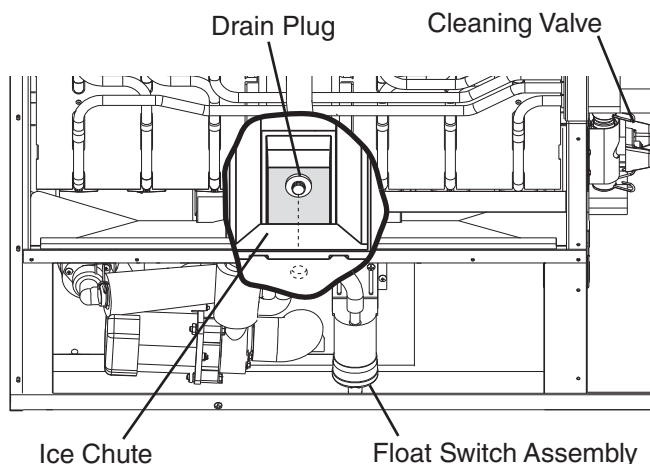

Fig. 16
- 6) Remove the insulation panel. Remove the drain plug located on the lower front part of the ice chute. See Fig. 16. Allow the water tank to drain.
- 3) Remove the insulation panel. Remove the drain plug located on the lower front part of the ice chute. See Fig. 16. Allow the water tank to drain.